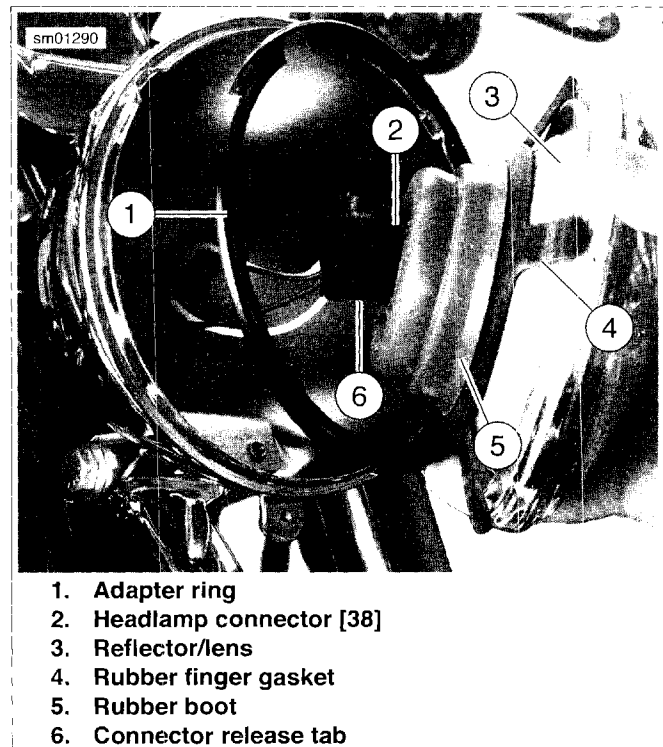
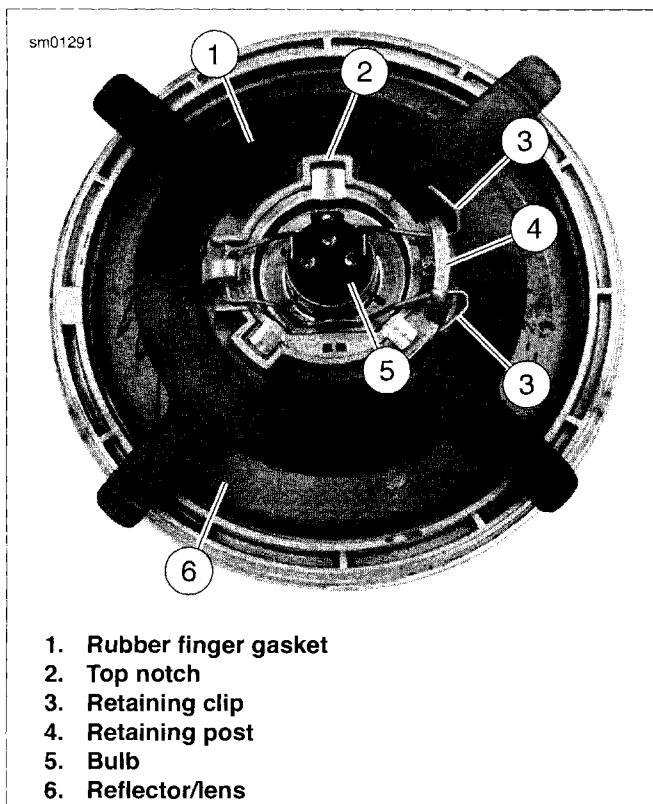

Figure 6-44. Remove Headlamp
Figure 6-45. Headlamp Assembly
3. See Figure 6-44. Hold headlamp reflector/lens (3) and compress release tabs (6) on sides of headlamp connector [38] (2). Pull connector from spade terminals.
4. Remove headlamp reflector/lens and metal adapter ring (1).
5. Pull rubber boot (5) from rubber finger gasket (4) on back of reflector/lens.
6. See Figure 6-45. Press ends of retaining clip (3) to unhook from notched retaining post (4).
7. Pivot retaining clip back and remove bulb (5).